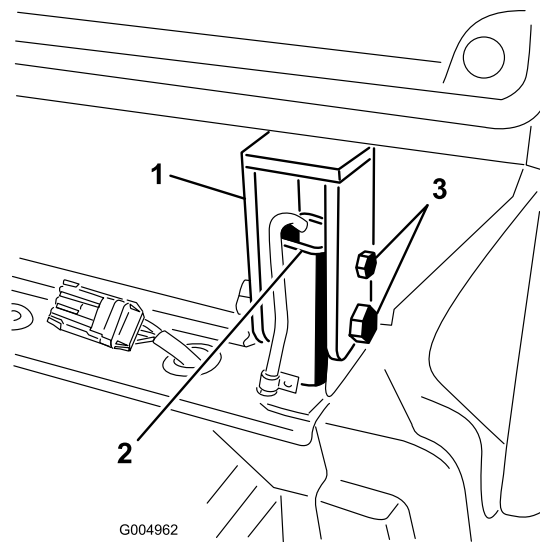

Figure 119
30. Tighten the bolts and nuts securing the rear cab mounts to the ROPS posts (Figure 119). Adjust the floor jack if the bolts are binding and difficult to remove.